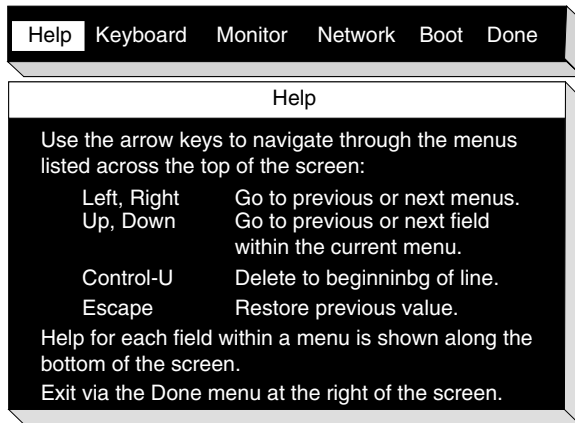

Figure 4-1 Boot Monitor Main Menu
3. When you are in the Boot Monitor (> prompt), press the Setup key or type **se <CR>**. The Main menu appears. (See Figure 4-1.)